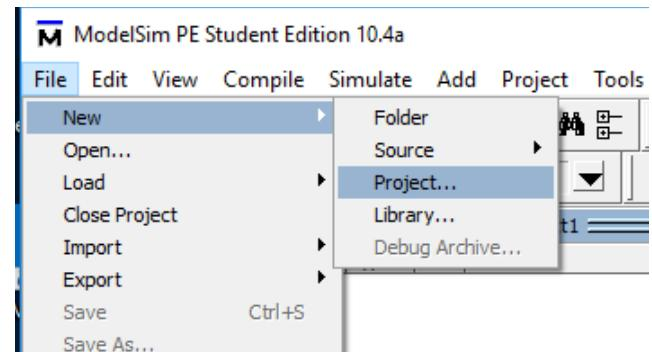

Figure 2.1: Creating a project
- 2) Open ModelSim, create a new project as in Figure 2.1.